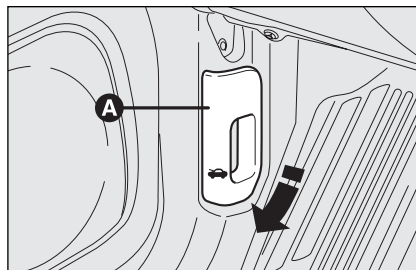

fig. 118
- ☐ pull lever **A-fig. 118** in the direction of the arrow;